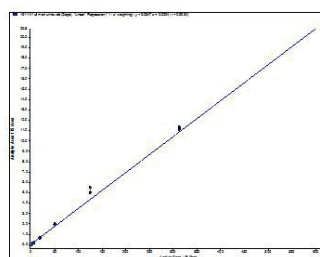

Figure 4a. Dopamine plot showing some non-linearity.
10. Due to the high levels of dopamine in urine the calibration line for this analyte could show some non-linearity at higher concentrations due to saturation. If this is significant and high concentrations are expected then the dopamine can be 'detuned' by for example reducing its collision energy from 29 V to 18 V. (see fig 4a and 4b below) The calibration details quoted in this application note were for correctly tuned dopamine with a linear fit.